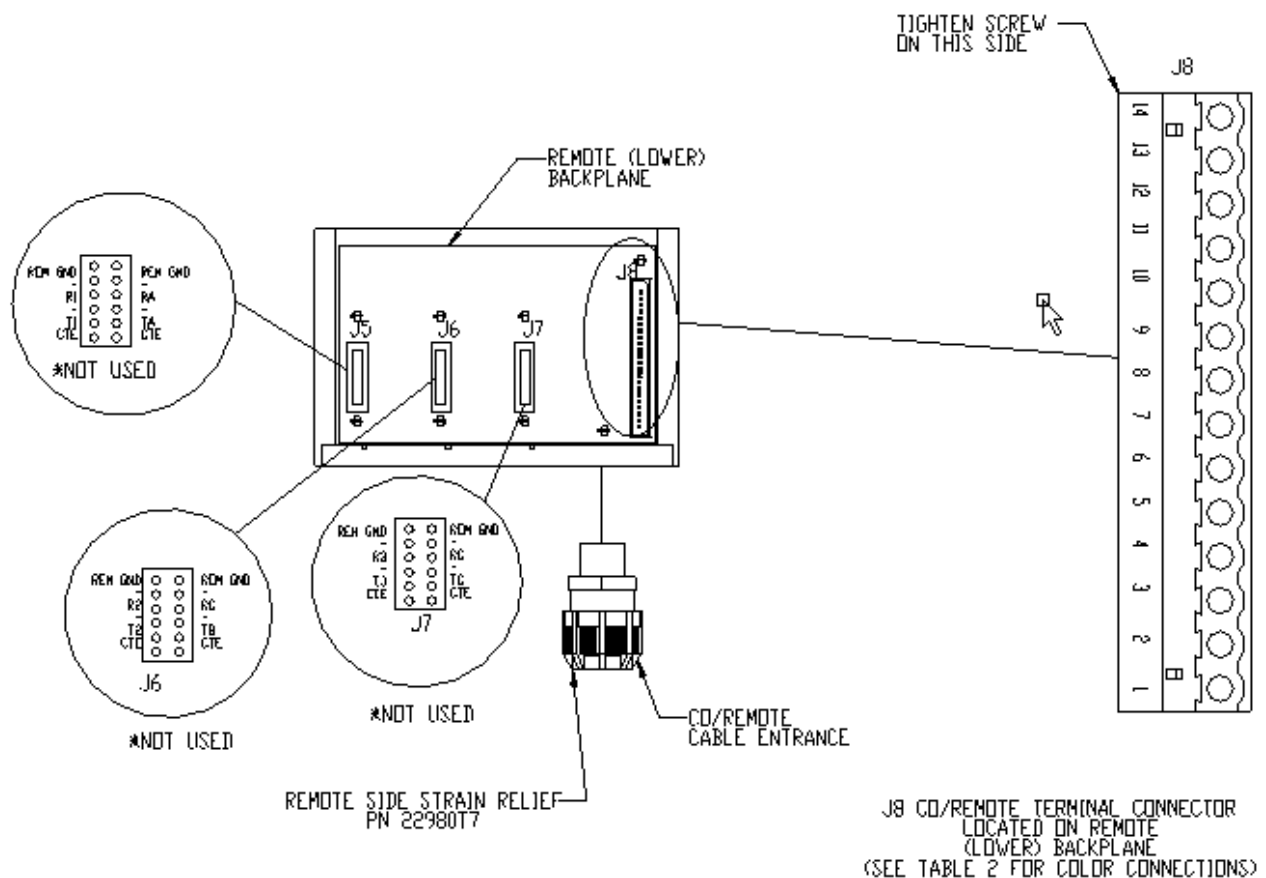

Figure 2: Remote Side (J8) Terminal Block Connections
2. One 14-position, push-on connector block (J8), located in the lower right corner of the card shelf is used to terminate the CO/Remote cable pairs. See figure 2.